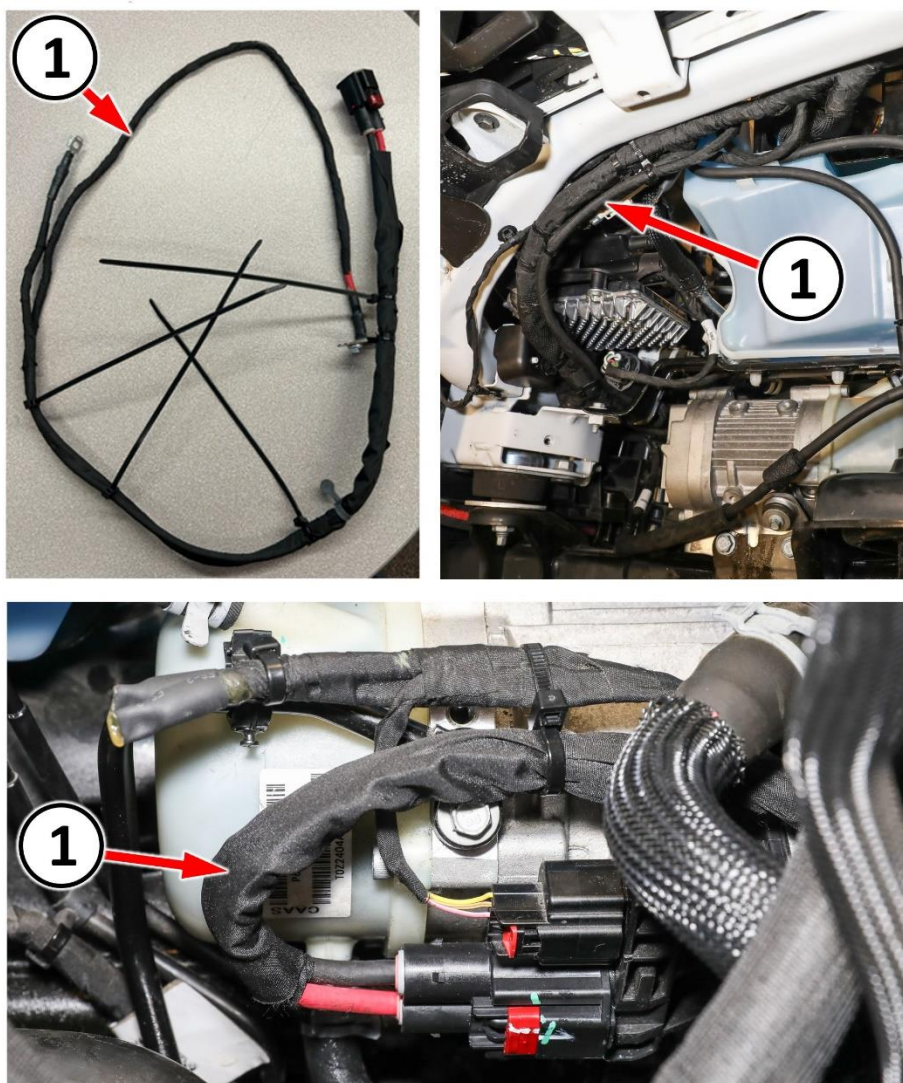

Figure C10 – EHPS Overlay Harness
34. Obtain the **NEW** EHPS overlay harness and position it in the engine compartment following the routing path of the original harness (Figure C10).